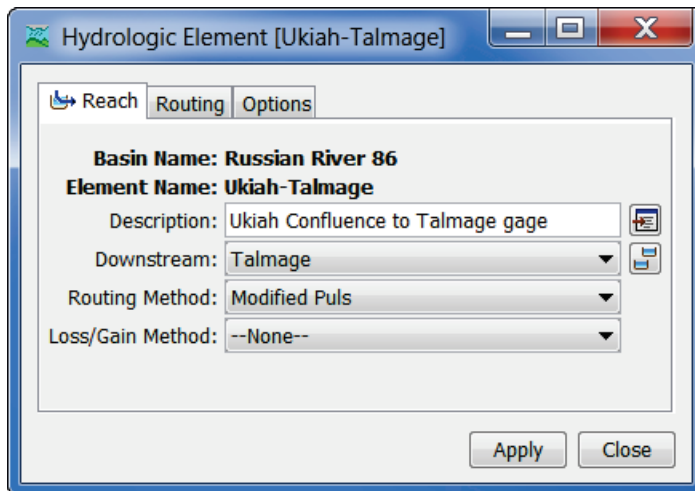

Figure L.7 HEC-HMS Editor – Routing Reach
2. The HMS editor for a routing reach will open (Figure L.7). This editor allows the user to change parameters that are specific to an HMS routing reach. For further detail on this editor, reference the HEC-HMS User's Manual.
3. To close the HMS editor for routing reaches (Figure L.7) click